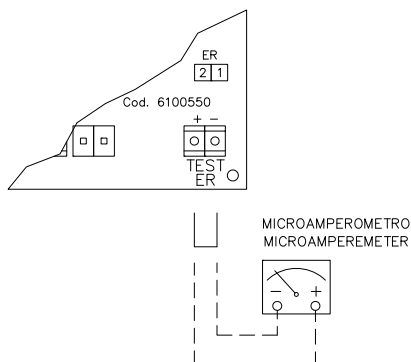
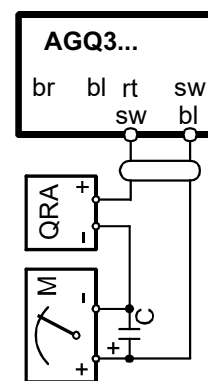

Fig. 38
Fig. 39
- Check the detection electrode, clean, adjust and, if necessary, replace; in case of doubt, check the detection circuit following the diagram in Fig. 38 and Fig. 39, after turning the burner back into operation.
Siemens LME (with UV detector)	3 $\mu$ A (Fig. 38) - 200 $\mu$ A (Fig. 39)